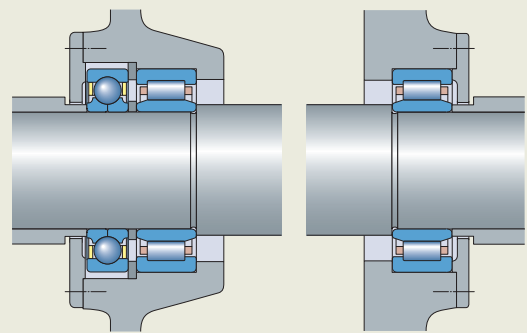

Fig. 9
- spherical roller bearing / CARB toroidal roller bearing (fig. 9)